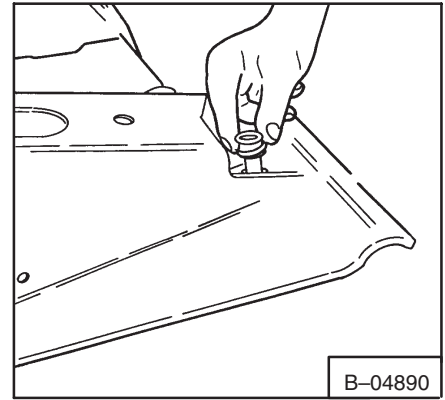

**Fig. 5-27** Installing Guides
4. Install the new Teflon guides in the Bob-Tach (Fig. 5-27).